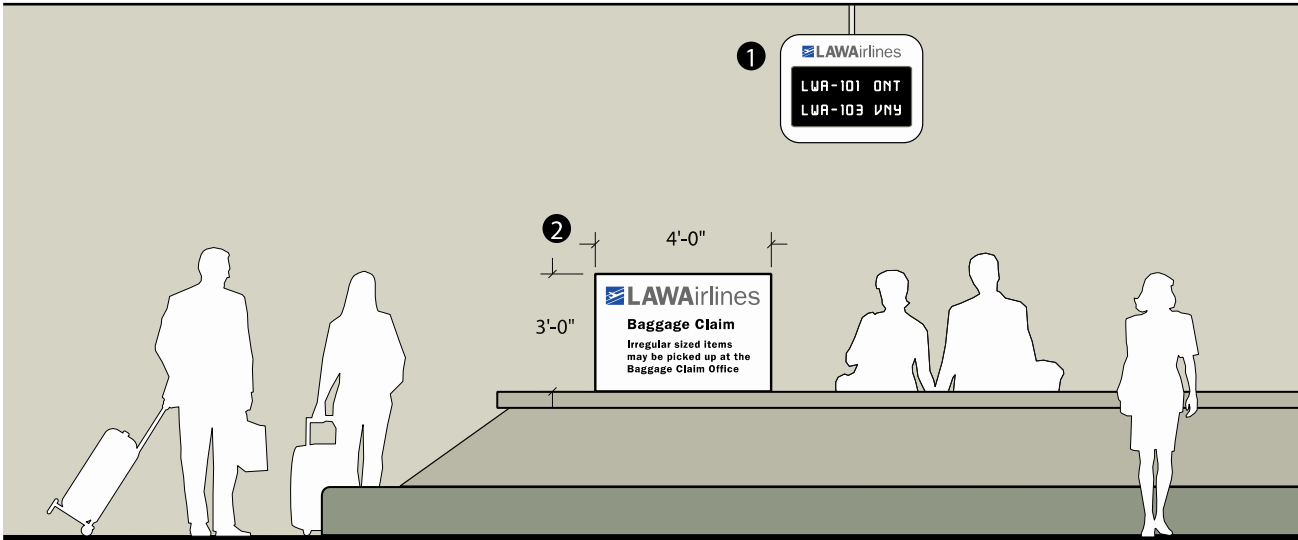

Figure 3i: Two standardized sign types help to minimize disorder in the baggage claim area.
- ① One (1) monitor per baggage carousel area.
- ② One (1) sign per baggage carousel.
①② See Figure 3i.